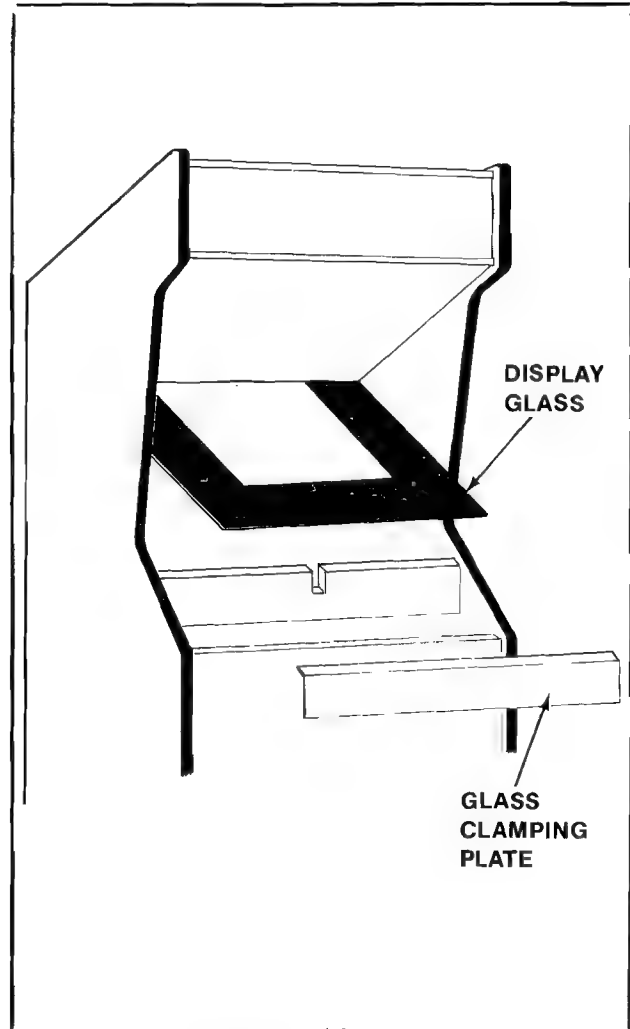

Figure 3-3 Removing the Main-Display-Glass & T.V. Bezel
- **Turn the power to the game off** and remove the screws which secure the glass clamping plate in position. See Figure 3-3.